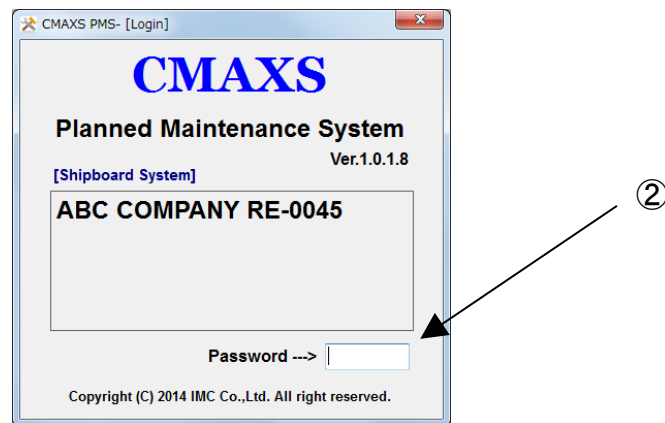

Fig.3-2 Password Input Dialog
- (2) "Password Input Dialog"(Fig.3-2) is displayed.